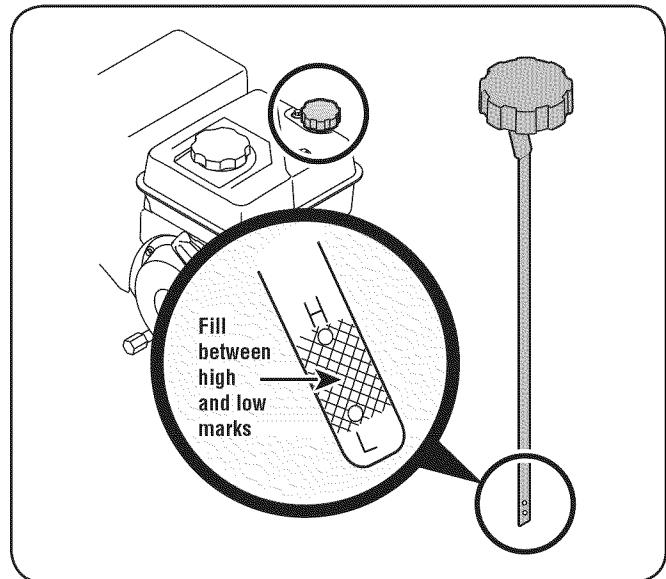

Figure 3-4
- Keep oil level between "H" and "L" marks on dipstick. See Fig. 3-4.
1. Remove the oil filler cap/dipstick and wipe the dipstick clean. See Fig. 3-4.
3. Remove the oil filler cap/dipstick. If the level is low, slowly add oil until oil level registers between high (H) and low (L), Fig. 3-4.